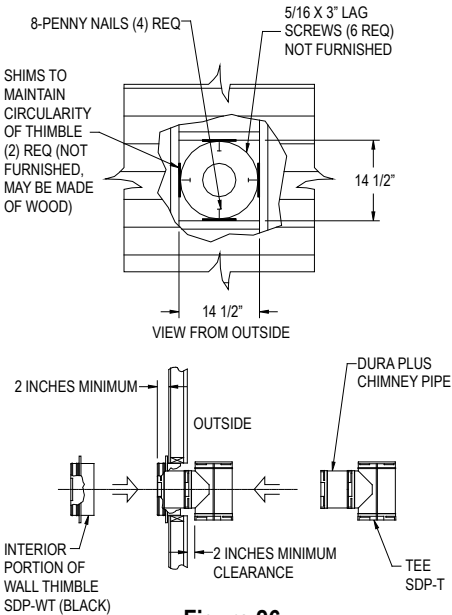

Figure 26
3. Install Wall Thimble: Insert the black section of the Wall Thimble into the opening in the wall from inside the room, and align the nail holes with the studs. **(Figure 26).** Do not nail the black thimble section at this time. Attach the Tee to a 9-inch or 12-inch Chimney Section by twisting until it is firmly locked. If the wall is less than 6 inches thick, use a 9-inch Chimney Section; if the wall is between 6 and 9 inches thick, use a 12-inch Chimney Section. From outside the building, insert the Chimney Section into the hole until the vertical part of the Tee is 2 inches away from the outside of the wall, and the black portion of the Wall Thimble and the Chimney Section protrude into the room at least 2 inches. **IMPORTANT: In order to make a safe connection, the female end of the Chimney Section must fully contact the inside face of the Wall Thimble.** Remove the